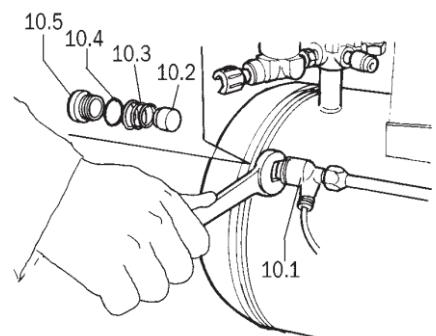

fig. 10
- **Malfunction of the exhaust valve of the air pressure switch (fig. 10).**
A - The check valve is not well sealed (fig. 10).